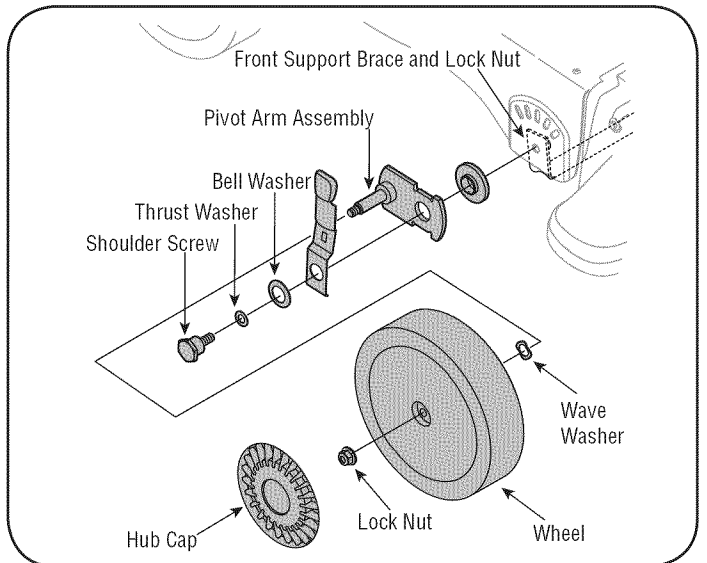

Figure 24
4. Remove the front hubcaps, flange lock nuts, front wheels, and wave washers that attach to the pivot arm assemblies. See Figure 24.